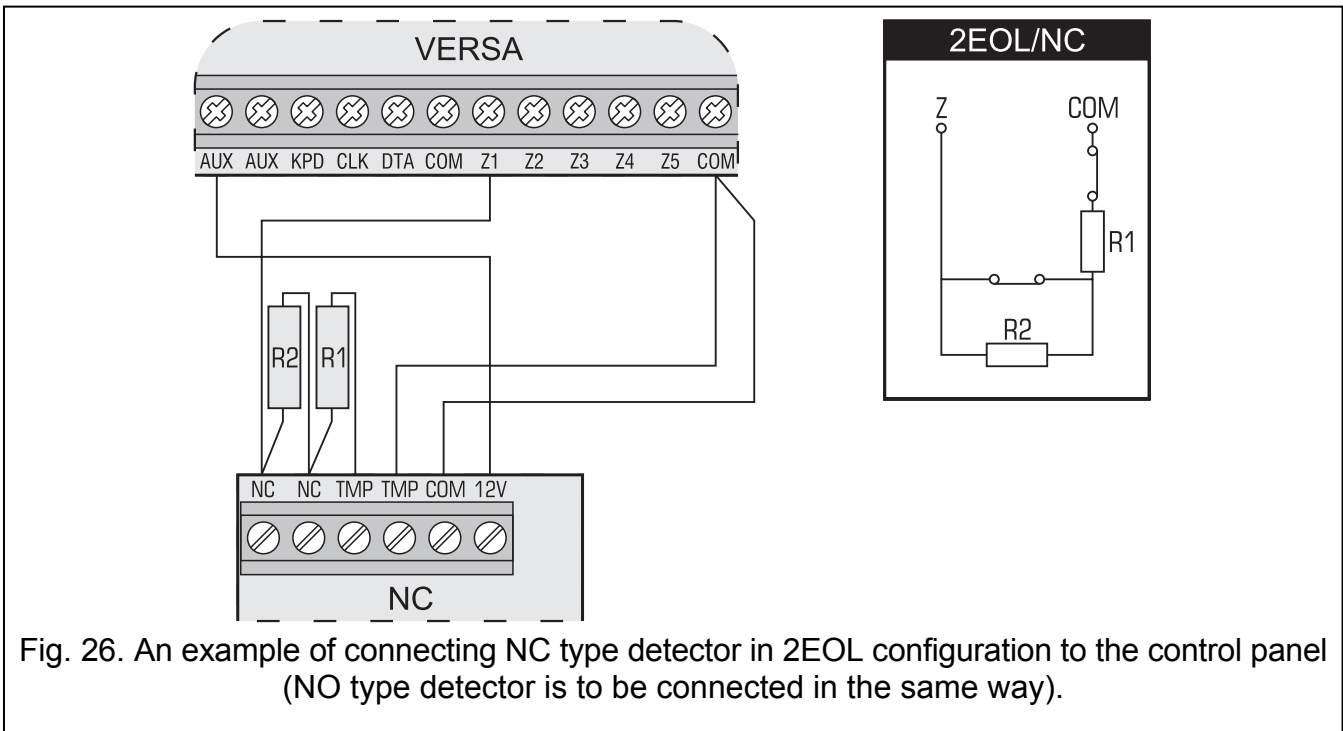

Fig. 26. An example of connecting NC type detector in 2EOL configuration to the control panel (NO type detector is to be connected in the same way).
- on the control panel mainboard – value of the R1, R2 resistors is programmed individually for 2EOL wiring type (see Fig. 26). Value of the resistor for EOL wiring type is the sum of values programmed as R1 and R2.
- **version 4.00** – value of the R1, R2 resistors for 2EOL wiring type (see Fig. 26). Value of the resistor for EOL wiring type is the sum of values programmed as R1 and R2.